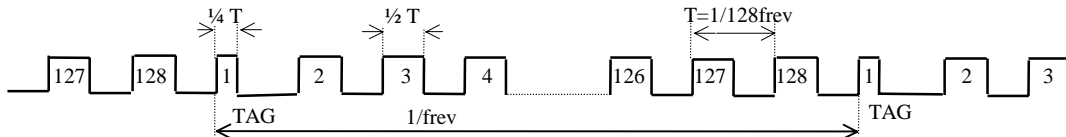
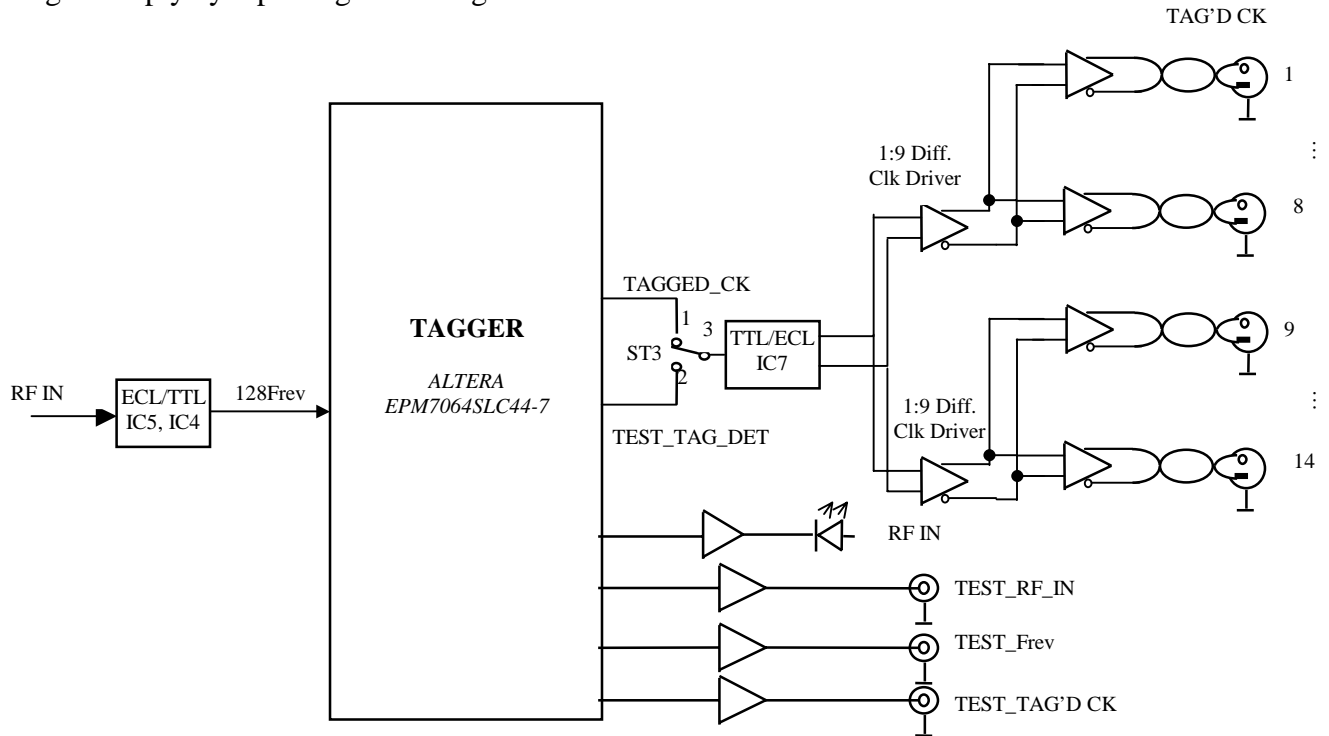

Figure 2
Figure 3
The “tag” is transmitted simultaneous with the clock signal by means of pulse width modulation (Fig. 2). This function is implemented inside a re-programmable Altera device (IC6). A 7 bit counter is used to add a short pulse, the “tag”, every 128 clock period. That TTL tagged clock is then converted into a differential ECL form and distributed via clock drivers (Fig. 3).
The module block diagram is shown on Fig. 3, the schematic capture and front panel (FP) - in Appendix 1. The pulse width modulation is implemented inside a re-programmable logic device (PLD) from Altera, thus the module functionality can be changed simply by replacing the configuration of the Altera device.